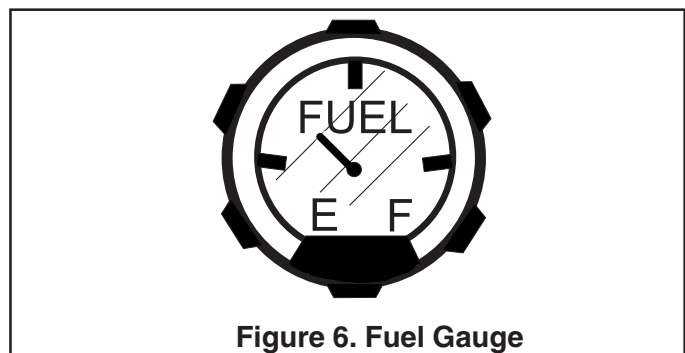

Figure 6. Fuel Gauge
1. Determine if the engine fuel is low (Figure 6). If fuel level is low, remove the fuel filler cap and fill with either diesel fuel or unleaded gasoline depending on the type of engine. Handle fuel safely. Motor fuels are highly flammable and can be dangerous if mishandled. **DO NOT** smoke while refueling. Do not attempt to refuel the ride-on trowel if the engine is hot or running.